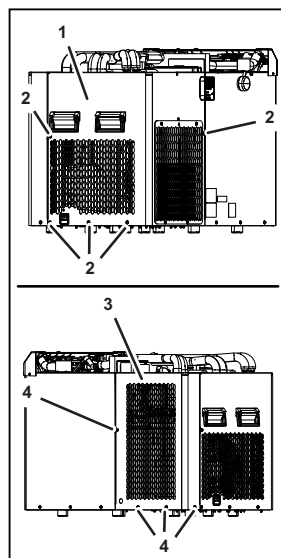

Figure 34
1. Remove the fastening bolts (Figure 34/2) from the sheet casing (Figure 34/1).
2. Lift off the sheet casing (Figure 34/1).
3. Remove the fastening bolts (Figure 34/4) from the sheet casing (Figure 34/3).
4. Lift off the sheet casing (Figure 34/3).
5. Position the new sheet casing (Figure 34/3) on the unit.
6. Attach the sheet casing (Figure 34/3) using the fastening bolts (Figure 34/4).
7. Position the new sheet casing (Figure 34/31) on the unit.
8. Attach the sheet casing (Figure 34/1) using the fastening bolts (Figure 34/2).